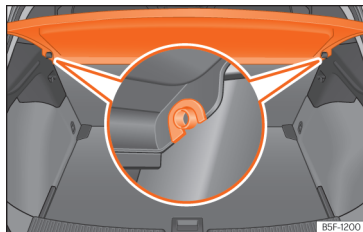

Fig. 175 In the boot: removing and installing the shelf.
- Remove the rear shelf from the side supports >>> Fig. 175 by pulling it upwards and then take it out.
- Insert the cover horizontally so that the “recess” fits onto the axis of the supports >>> Fig. 175 and press down until it engages.